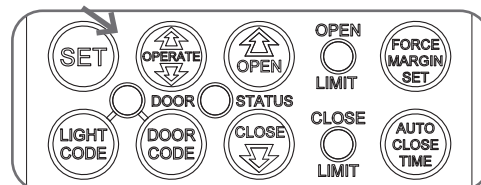

Fig.6.8.1
- Press the OPERATE button to open the door (**Fig.6.8.1**).
- Press the OPERATE button to close the door (**Fig.6.8.1**).